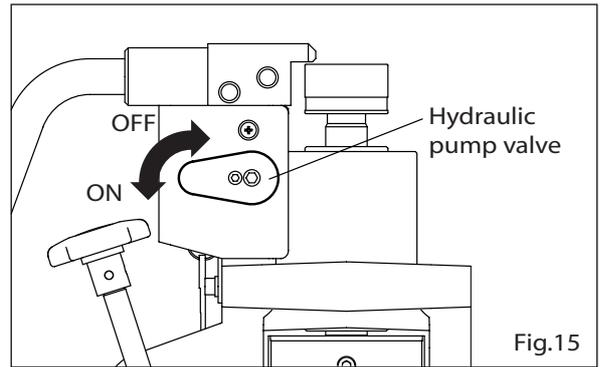

Fig.15
- 1) Check that the hydraulic pump valve is in the ON position. (Fig. 15)
- 4) When you set the hydraulic pump valve to OFF, the upper roller will return to its resting position. (Fig. 15)